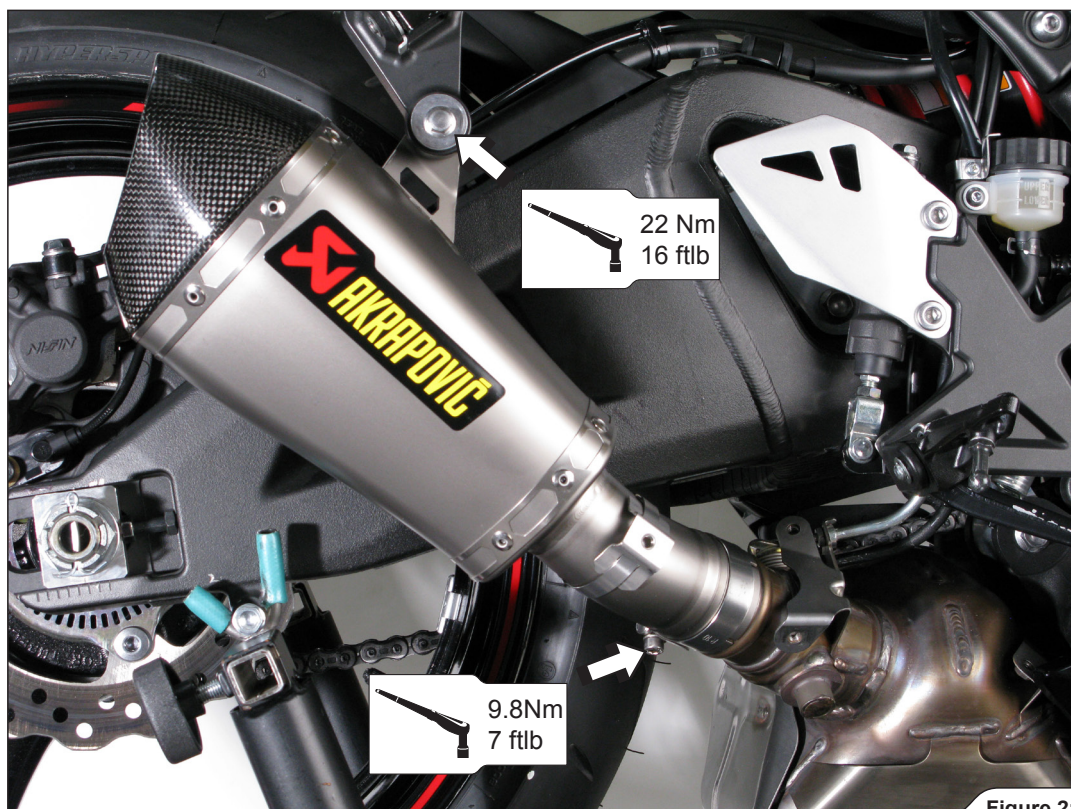

Figure 21
11. Align the muffler in respect to the motorcycle and tighten the muffler bracket onto the passengers foot rest (using original bolt and nut) and metal clamp to the specified torques (**Figure 21**).